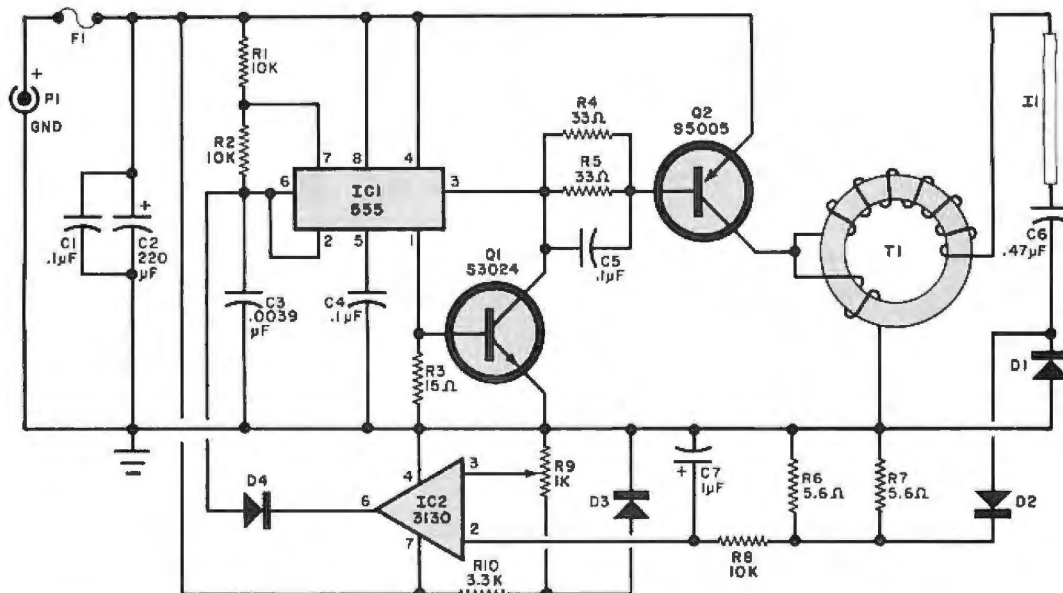

Fig. 1. The 555 oscillator drives Q2 which causes a high voltage across the lamp through T1. The IC2 circuit is a form of voltage regulator.
**Circuit Operation.** Timer integrated circuit *IC1* in Fig. 1 serves as a pulse generator whose output frequency is determined by *R1*, *R2*, and *C3*. When the output of *IC1*, at pin 3, goes low, current flows from the base of *Q2* through *R4* and *R5* and then to ground via pin 1 of the 555 timer. The voltage drop developed by the load current across *R3* is applied to the base of *Q1*, turning on this transistor, while part of the load current from *R4* and *R5* flows through transistor *Q1* to ground.